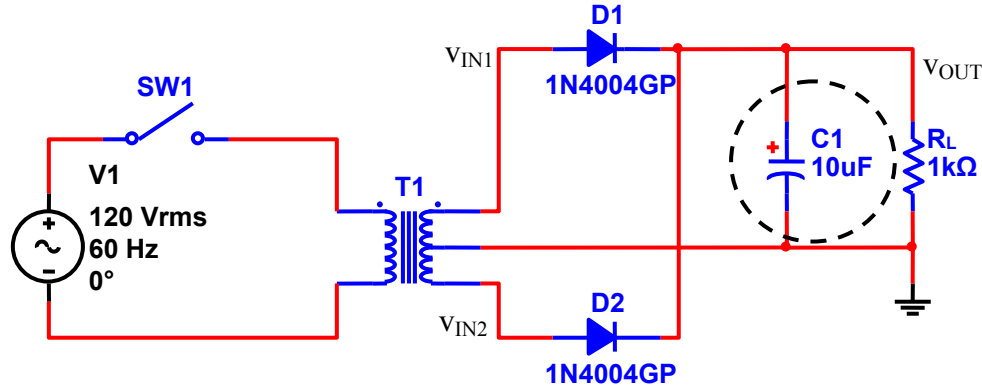

Figure 2-5
- Figure 2-5: Full-Wave Rectifier Circuit (with filter cap)
- 2.5. Modify the full wave rectifier circuit by adding a  $10\mu\text{F}$  filter capacitor, as shown in Fig 2-5. BE SURE TO OBSERVE THE CORRECT ORIENTATION OF THE POLARIZED CAPACITOR!